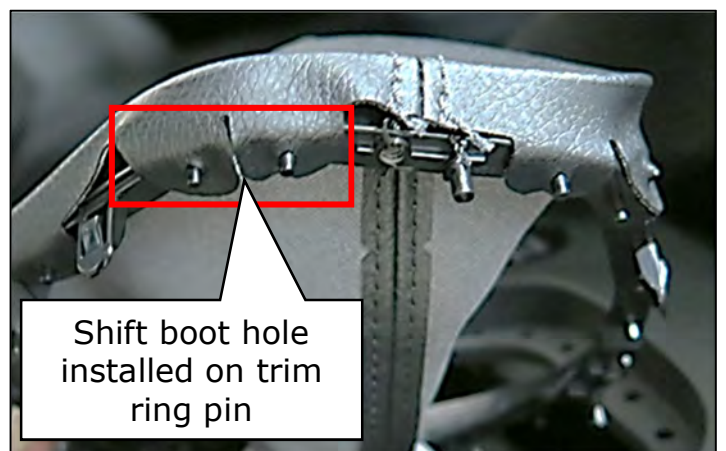

Figure 120
115. Carefully install the shift boot over the trim ring. (Figure 120)
- Align the shift boot holes with the trim ring pins as shown in Figure 120